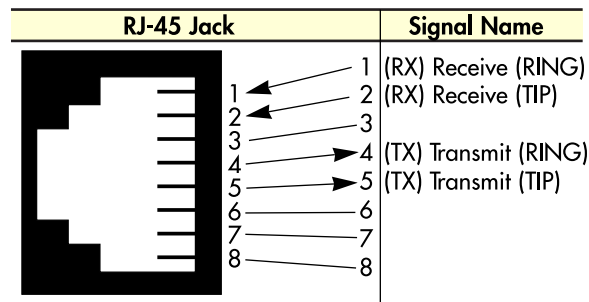

Figure 11. T1/E1/PRI RJ-48C pinout diagram
1. Refer to figure 11 for the T1/E1/PRI RJ-48C pinout diagram.